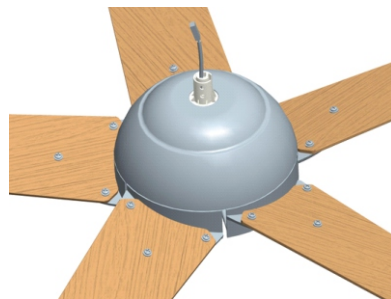

Fig 4.2
4.2 Fig 4.2 is the schematic diagram of the installed fan blade bracket. Repeat these steps for the remaining blades. Make sure all the screws are firmly tightened.